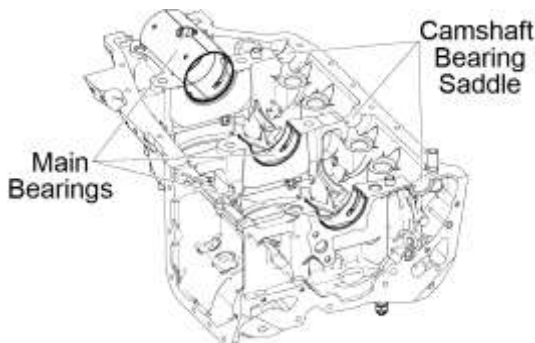
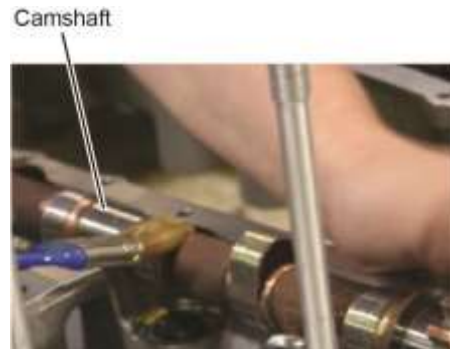

Figure 75
Figure 78
- (4) Apply engine oil mixture (15% pre-lubricant (STP or equivalent) and 85% SAE No. 50 mineral base aviation grade lubricating oil) to the camshaft slots and main bearings on each crankcase half (Figures 75 and 76) and the camshaft lobes (Figure 78).